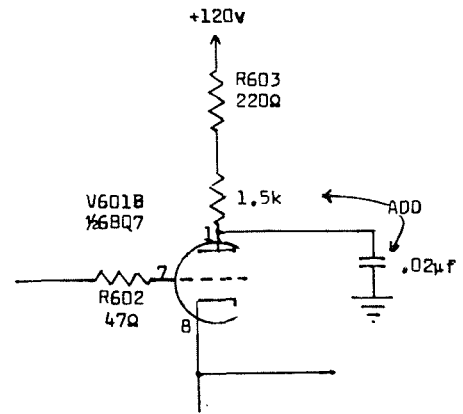

Figure 2. Type 524D/524AD Time-Mark Generator for serial numbers 1842 and below (partial schematic).
1. Refer to Figure 2. Decouple the 120 v plate supply of V601B by adding a 1.5 k, 1 w, 10% composition resistor (Tek no. 304-152) and a 0.02 μf, 600 v discap (Tek no. 283-006) as shown in Figure 2.